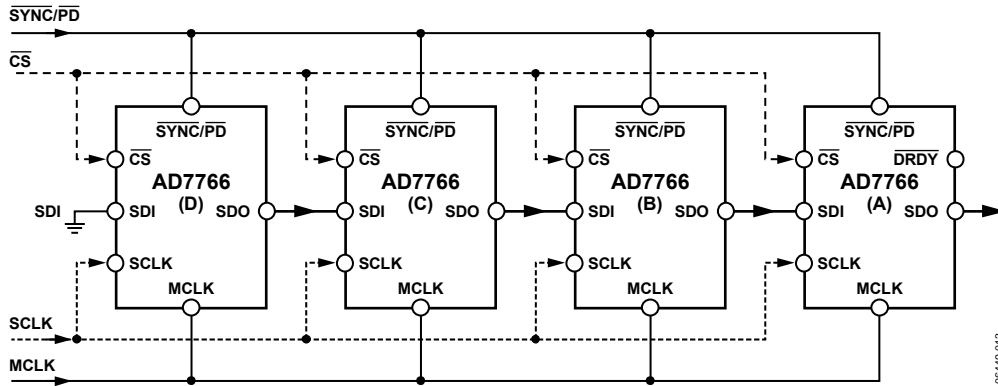
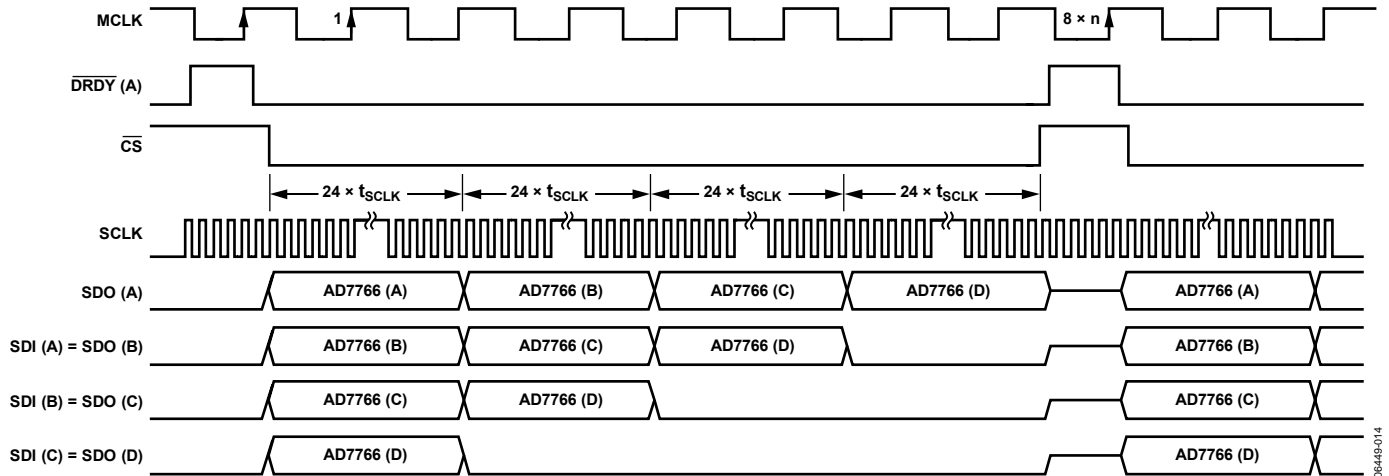

Figure 36. AD7766 Daisy Chain Configuration with Four AD7766 Devices
Figure 37. AD7766 Daisy Chain Timing Diagram ($n = 1$ for AD7766, $n = 2$ for AD7766-1, $n = 4$ for AD7766-2) Driving the AD7766
The block diagram in Figure 36 shows the way in which devices must be connected in order to achieve daisy chain functionality. This scheme operates by passing the output data of the SDO pin of an AD7766 device to the SDI input of the next AD7766 device in the chain. The data then continues through the chain until it is clocked onto the SDO pin of the first device on the chain.
An example of a daisy chain of four AD7766 devices is shown in Figure 36 and Figure 37. In the case illustrated in Figure 36, the output of AD7766 (A) is the output of the full daisy chain. The last device in the chain (AD7766 (D)) has its serial data in (SDI) pin connected to ground. All the devices in the chain must use common MCLK, SCLK, $\overline{\text{CS}}$, and SYNC/PD signals.
After applying a $\overline{\text{SYNC/PD}}$ pulse to all the devices, there is a delay (as listed in Table 7) before valid conversion data appears at the output of the chain of devices. As shown in Figure 37, the first conversion result is output from the device labeled AD7766 (A). This 24-bit conversion result is followed by the conversion results from the devices B, C, and D, respectively, with all conversion results output in an MSB first sequence. The stream of conversion results is clocked through each device in the chain and is eventually clocked onto the SDO pin of the AD7766 (A) device. The conversion results of the all the devices in the chain must be clocked onto the SDO pin of the final
As shown in Figure 36, the number of SCLK falling edges that occur during the period when $\overline{\text{DRDY}}$ (A) is active low must match the number of devices in the chain multiplied by 24 (the number of bits that must be clocked through onto SDO (A) for each device).